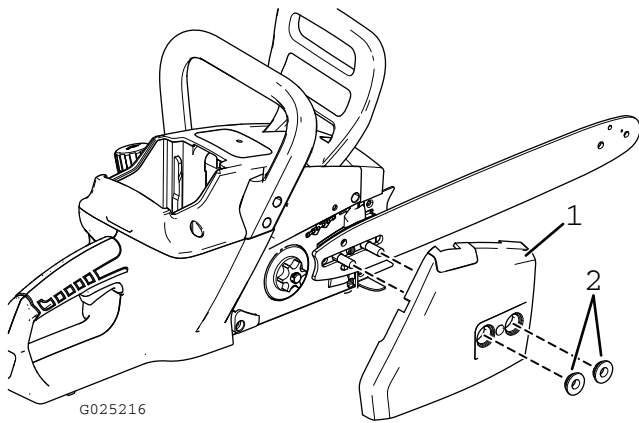

Figure 27
2. Remove the two nuts that secure the cover (Figure 27).